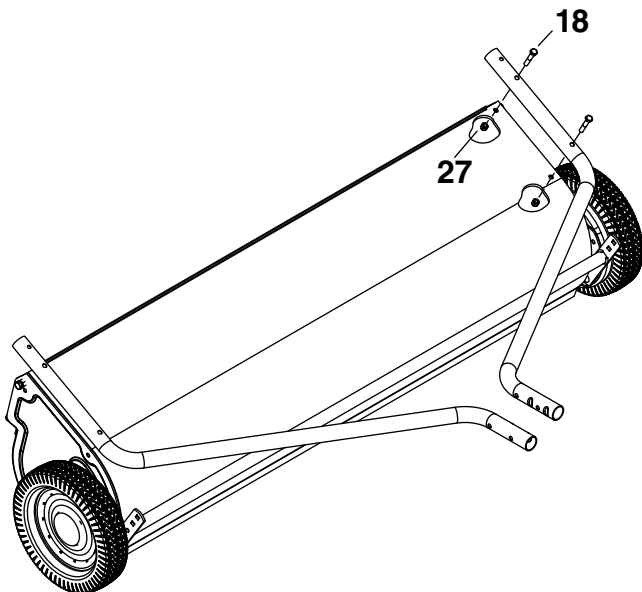
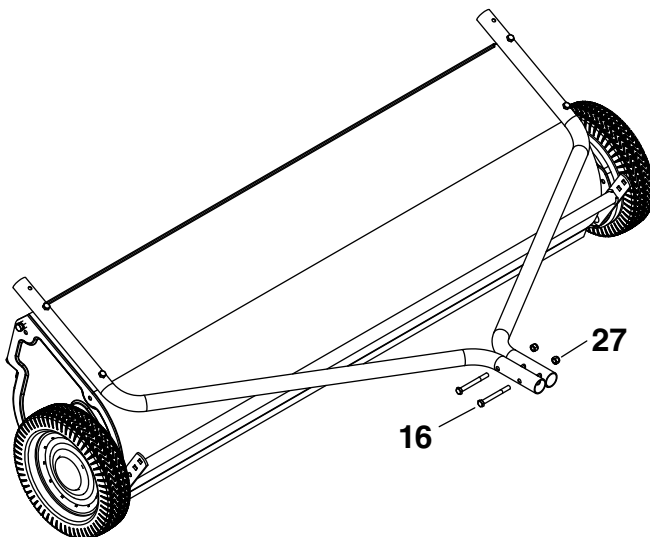

FIGURE 1
FIGURE 2
- Assemble the hitch brackets to the hitch tubes using two 5/16" x 2-1/4" hex bolts (17) and 5/16" nylock nuts (27). If your tractor drawbar has 10" or more ground clearance, place the bent hitch bracket on top. If it has less than 10" clearance, place the straight hitch bracket on top. **Do not tighten yet.**
- **Tighten** all loose bolts and nuts as follows: Tighten the bolts and nuts assembled in figure 1. Tighten the bolts and nuts assembled in figure 2.
- Assemble the hitch pin (34), two spacers (38), and the large hairpin cotter (31) to the hitch brackets.